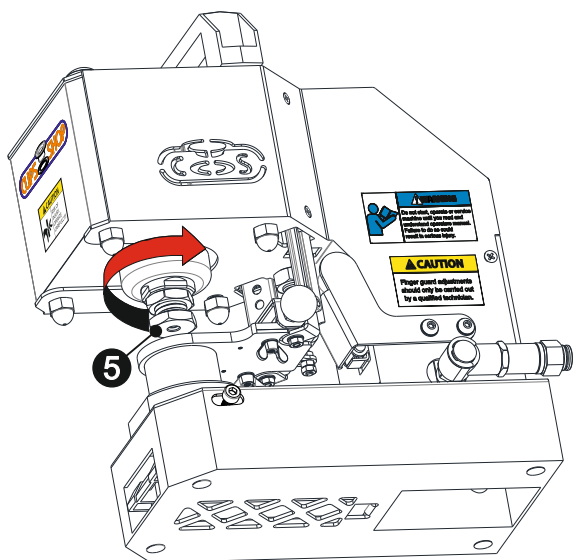

fig. 45
Install the upper die adaptor ❹ by rotating it in the arrow direction as shown in above (fig. 45).